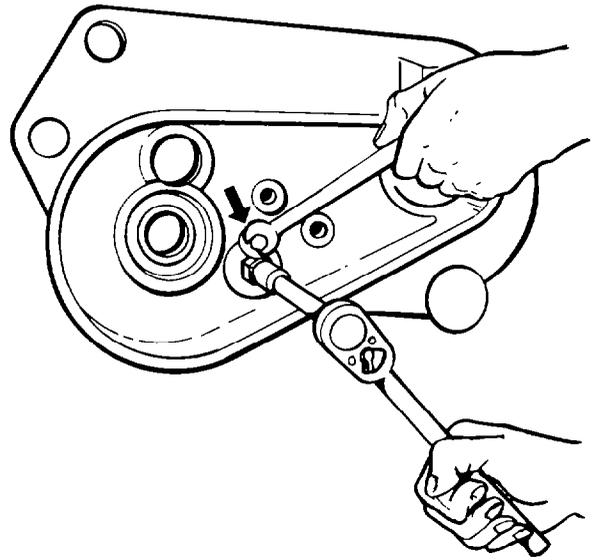

Figure 137 Releasing Roller Spring Tension
- s. Use a socket spanner and power-bar to maintain the pressure roller spring under tension whilst removing the lockbolt from the sprocket housing; slowly release the tension on the spring by turning the shaft until the spring is slack (see Fig 137).